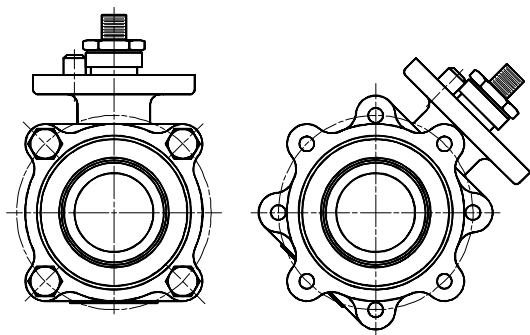

Figure 1
3. Remove the cap screw (21) and the handle (15).
4. Loosen all eight body bolts (20). Pick two bolts (closest to the top of the valve) that are in line and opposite each other, and back them off at least 5/16". Remove the remaining six bolts.
5. For positive alignment and ease of in-line assembly, each end cap is interlocked approximately 3/32" into the body as shown in Figure 3. To overcome this feature during in-line disassembly, it is necessary to separate each cap at least 3/32" from the body. Sharply rap body and caps with a block of wood or plastic mallet to break the body seal loose. Spread end caps and swing the body out of the line. If the pipe does not allow simple spreading, remove the remaining body bolts and rotate center section per Figure 1. This will improve access to the end cap flange for ease of spreading. Swing the valve body (1) out from between the end caps (2). Be careful not to damage the sealing surfaces "A" (see Figure 3) at each end of the valve.
6. Turn the stem (4) so that the valve is fully closed. Remove body seals (6) and seats (5). Body seals may be tightly compressed in their grooves. Use extreme care when prying them out. Damage such as scratches to the bottom of the groove will cause leaks. If the seats are not easily removed, gently tap the ball (3) with a piece of wood or other soft material.
7. Remove the ball (3).
8. Remove and save the stem nut (16), Shakeproof® washer (9), indicator stop (12), and compression ring (18).
9. Press the stem (4) from the top into the valve body (1), and remove it through the end of the body.
10. Carefully pry out and discard the old stem seals (7) the stem bearings (8) and the secondary seal (13), being careful not to damage the bearing surfaces.